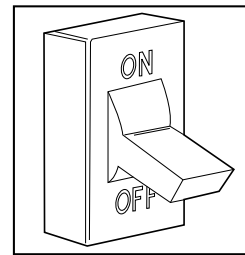

Fig. 12 – Turn Off Electrical Supply
1. Turn off the electrical supply to the furnace, see Fig. 12.